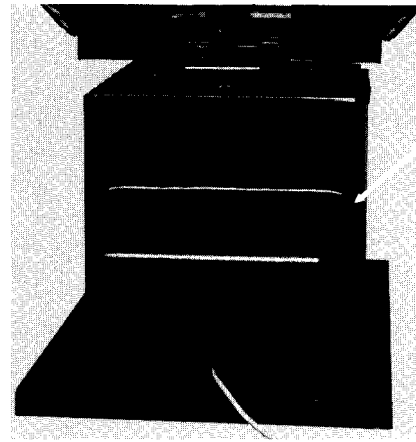

Fig. 10
Remove motor cover by removing (6) screws, Item A, Fig. 10 and pulling bottom of cover out until top of cover disengages from retaining channel.